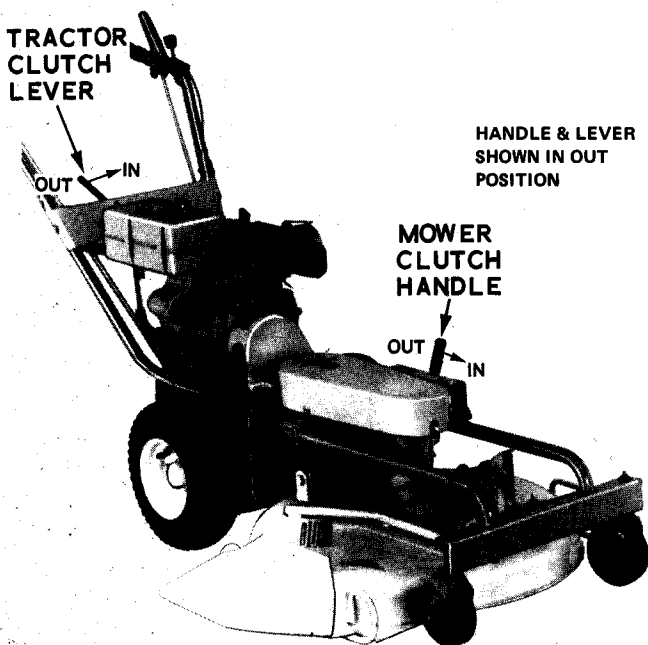

Figure 1
(1) To start mower, engage mower clutch as indicated on the belt guard above the lever. Move tractor clutch lever to the IN position gently. See Figure 1.
(2) To stop mower, move clutch lever to the OUT position. To disengage tractor unit, move tractor clutch lever to OUT position.
## 4. BELT ADJUSTMENT (See figure 1)